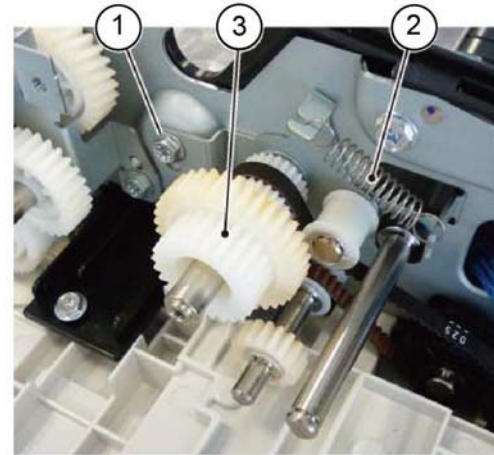

Figure 4 Gear pulley removal
11. Remove the gear pulley, Figure 4:
- a. Loosen the screw (1).
- b. Remove the tension spring (2).
- c. Remove the gear pulley (3).